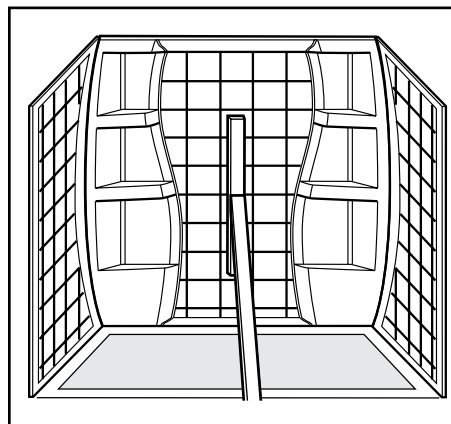

Figure 5
- 6** Install a temporary brace to hold the center of the back panel tight to the studs for approximately 24 hours while adhesive sets (Figure 5).